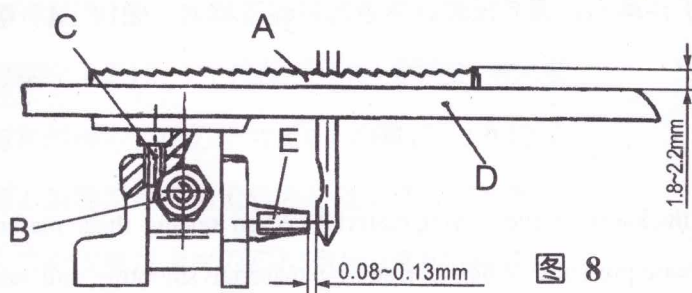

图 8
缝纫时由于袋边拼接处厚度不一致，往往会使机针刺在缝料厚薄交界处而弯曲或发生故障，而机针挡块 (图5, E) 则可起到保护作用。两者的间隙为0.08~0.13毫米 (0.003至0.005英寸)， (图8所示)。调整时将皮带轮按工作方向转动，使机针挡块靠近机针，拧松牙架上 (图5, F) 紧定螺钉 (G)，移动机针挡块 (E) 至合适间隙后再拧紧螺钉 (G)。
The needle will bend or break when abutting bags made of different thickness of sewing material. And needle guard (E, Fig.5) will protect the needle. The clearance between the needle and the needle guard 0.08-0.13mm (0.003 to 0.005 in.) (Fig.8). For adjustment, rotating pulley in the direction of operating, so that needle guard moves against the needle. Loosen set screw (G) on feed dog holder (Fig.5), move the needle guard accordingly. Retighten screw (G).
根据缝料质量与厚度确定送料牙A(图8)的高度。
The height of the feed dog A(Fig.8)is determined by the quality and the thickness of the sewing materials. For closing thin material such as bags made of cloth and plastic,teeth surface should project 1.8mm above the throat plate D top surface, and for sacks about 2.2 mm above the throat plate. For setting, move the feed dog to the highest position, loosen nut B and adjust feed dog by raising or lowering it.Retighten screws B.